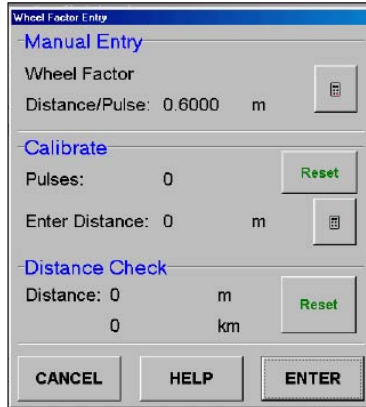

Figure 8-17. Wheel Factor Entry
The *Wheel Factor Entry* window will be displayed (Figure 8-17 on page 8-47).
3. If the pulses are not on '0' press **Reset**, in the *Calibrate* window (Figure 8-17)
1. Press **Reset**, in the *Distance Check* window (Figure 8-17 on page 8-47)